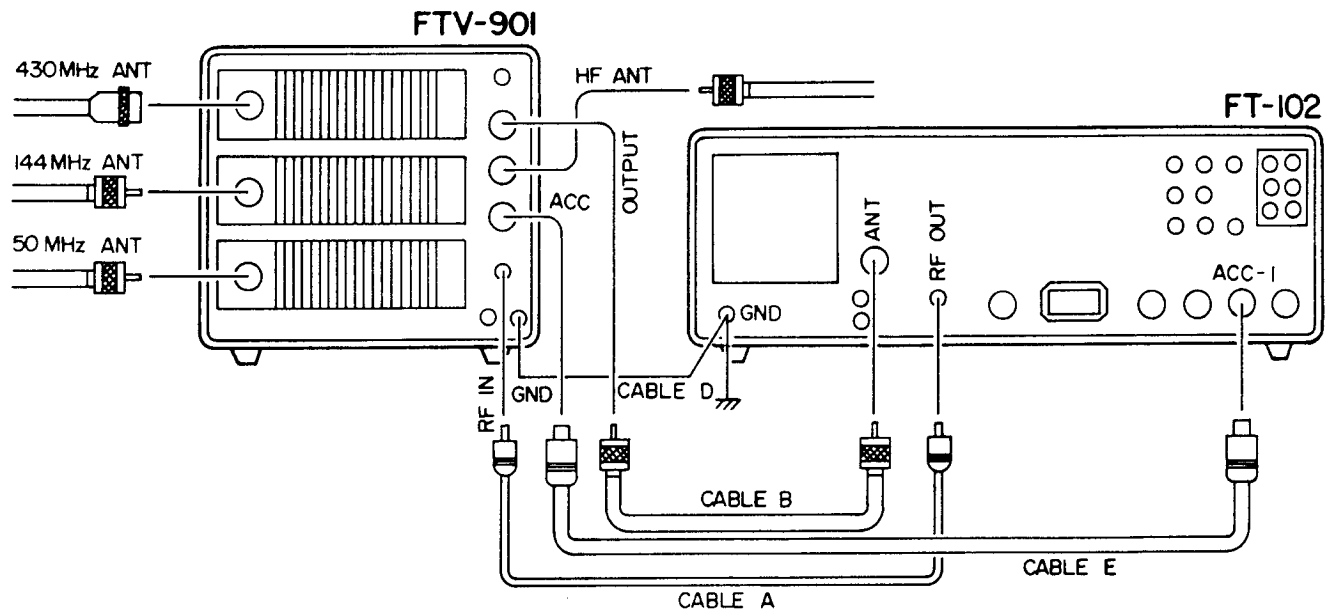

Figure 7
6. Modification is now complete. Replace the top and bottom covers of the FTV-901R and their twelve screws, and connect the transverter to the FT-102 as shown in Figure 7.